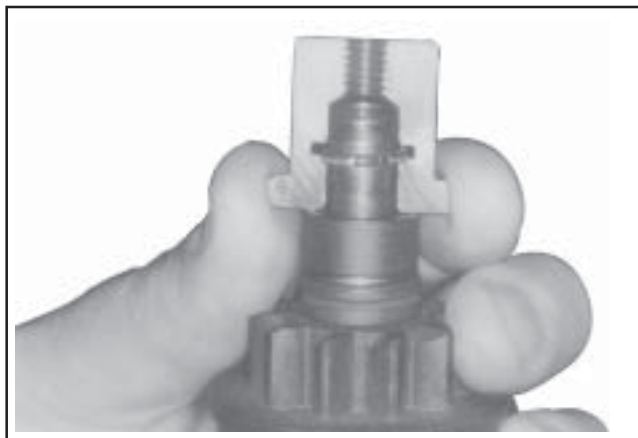

Figure 8-36. Assembling Inner Half of Tool Around Armature Shaft and Retaining Ring.
4. Holding the spring retainer in the retracted position, assemble the inner halves of the removal tool around the armature shaft with the retaining ring in the inner groove (see Figure 8-36). Slide the collar over the inner halves to hold them in position.